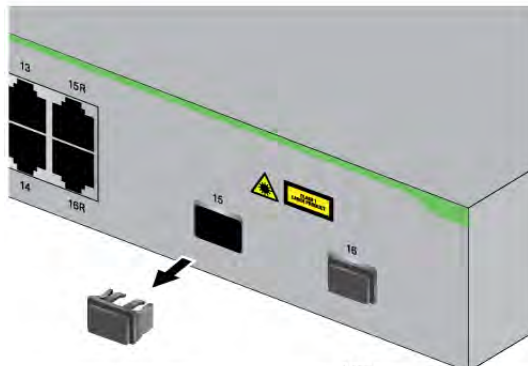

Figure 12. Removing the Dust Plug from an SFP Slot
2. Remove the dust plug from an SFP slot. See Figure 12.